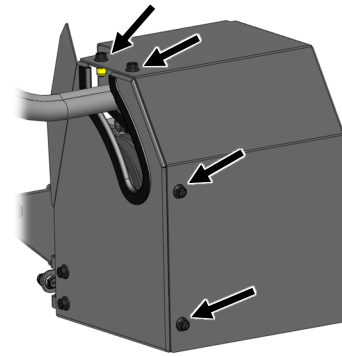

Fig. 9.5 (Install Rear Shroud Panel)
- 9.5 See fig. 9.5. Assemble the rear shroud panel over the compressor. Tighten all shroud bolts at this time. Verify that there is clearance all around hoses. Loosen shroud and adjust, if necessary, to gain adequate clearance.